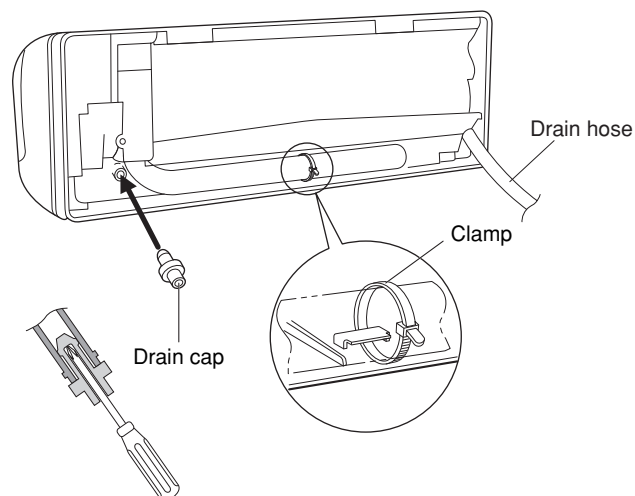

Fig. 40a
- (d) Reattach the drain hose to the left side and the drain cap to the right side. (Fig. 40a)
- (3) Install the indoor unit on the rear panel.
- (4) Connect the tubing and wiring led inside from outdoors.
- (5) After completing a leak test, bundle the tubing together with armoring tape and store it inside the tubing storage area at the back of the indoor unit and hold it with clamps. (Figs. 40a and 41a)